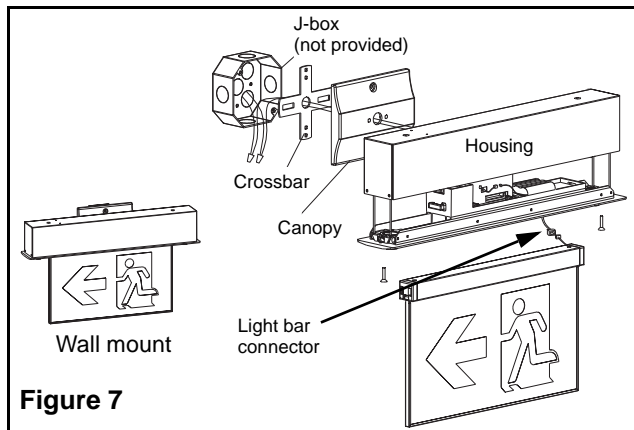

Figure 7
5. Unscrew (4) four screws holding the j-box / housing assembly together.
10. Using provided screws, tighten canopy to the crossbar (see figure 7)
13. Connect the light bar connector and snap the light bar into the trimplate (see fig.7 & 8).